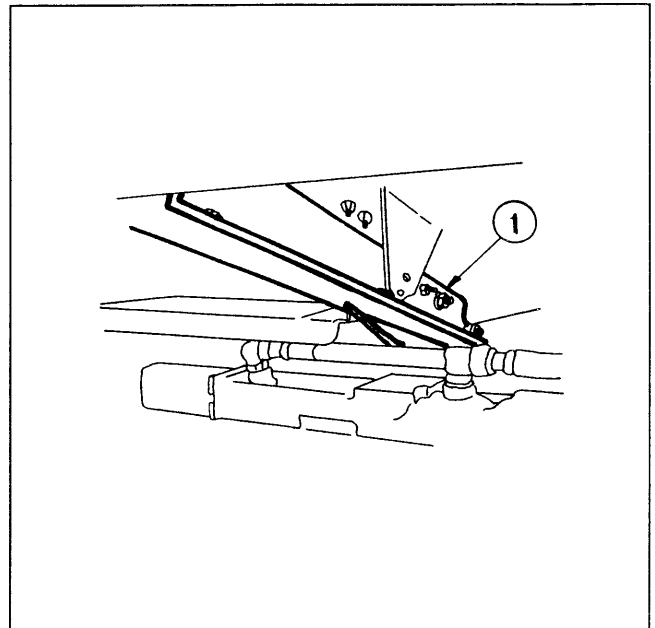

Figure 2
chassis using the 12x50x1.75mm hex bolts and hex nuts provided. NOTE: Keep the bolt heads toward the outside and use one factory flatwasher between the bracket and platform on the bottom hole. (see figure 2)
6. Loosely bolt the bracket front to the platform using the 10x35x1.5mm hex bolt and hex nuts supplied. (see figure 2)